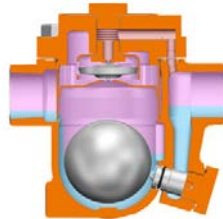

Figure 1 Free Float Trap
- Mechanical Traps:** These traps have a float that rises and drops inside the trap following the level of condensate. A linkage opens and closes the valve depending on the position of the float. These traps are categorized as inverted buckets and float traps. The float traps are also classified as free ball float and lever ball float. See Figure 1.